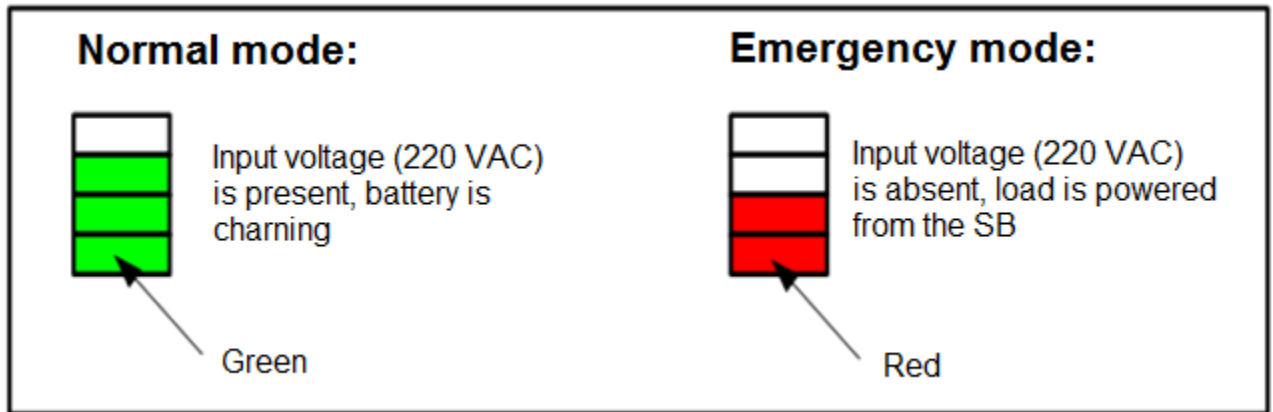

Figure 3 – Modes and colours of the BPS's LED charge indicator
- While running from the main power system The BPS ensures automatic charge of the built-in storage battery (hereinafter – the SB), the charge level is represented on the four-segment LED charge indicator, see Figure 3;
Built-in 4-segment LED charge indicator is located on the upper panel of the Product. Number of segments represents the battery charge level, see Figure 3 and Table 5.